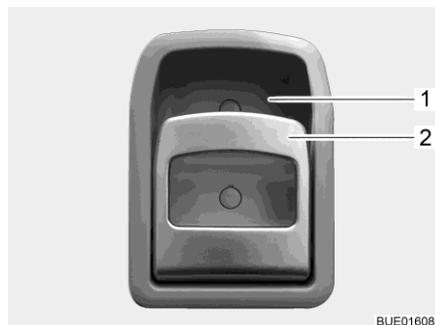

Fig. 36 Door lock (conversion door, inside)
- Opening:** ■ Pull on the handle (Fig. 36,2). The door lock is unlatched or opened.
- Locking:** ■ Press the upper part of the handle (Fig. 36,2) in the direction of the recessed handle (Fig. 36,1). The door lock is locked.